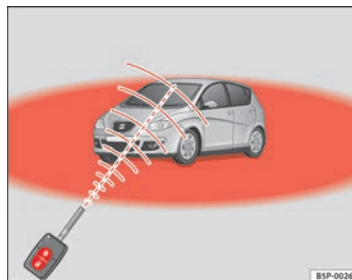

Fig. 65 Range of the remote control:
- The remote control functions only when you are in range ⇒ page 102, fig. 65 (red area).